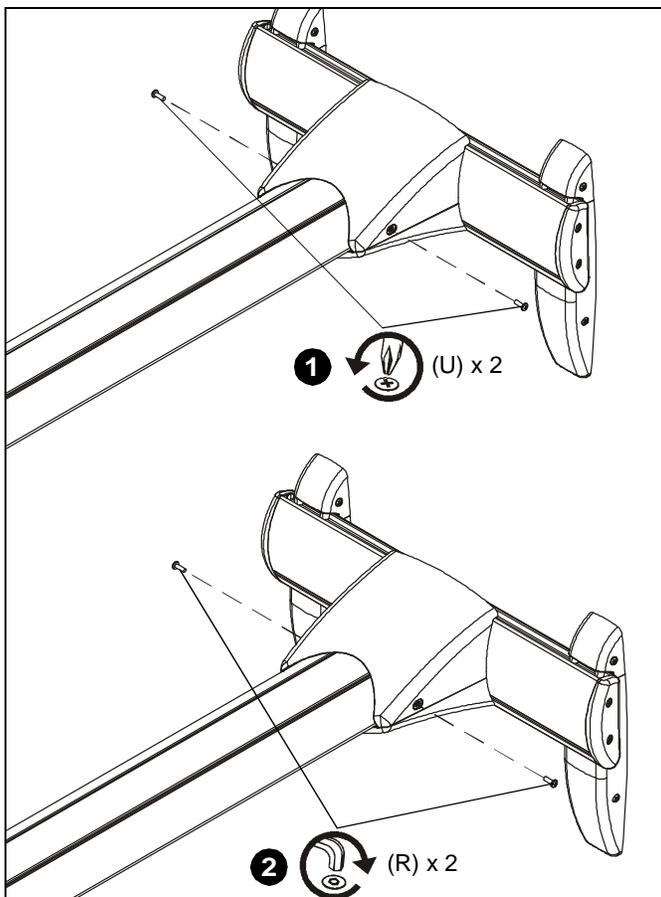

Figure 41
1. Remove two #8-32 x 1/2" Phillips pan machine screws (U) holding mount covers on projector arm. (See Figure 41)
2. Install two #8-32 x 1/2" button head security screws (R) into holes on mount cover. (See Figure 41)